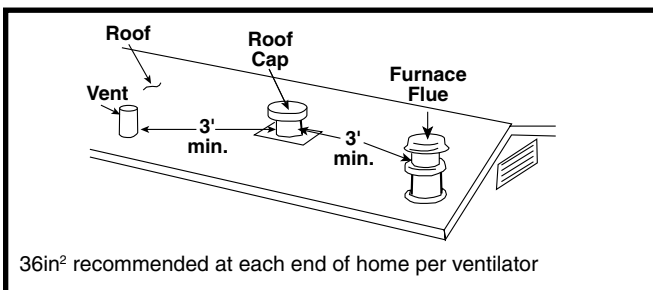

Figure 4. Roof Spacing
4. Determine location of roof opening. **NOTE:** The roof cap assembly should be located as closely as possible to the center of the home, allowing connection of the fresh air intake to the furnace using the 11-foot length of flexible duct provided. See Figure 4.